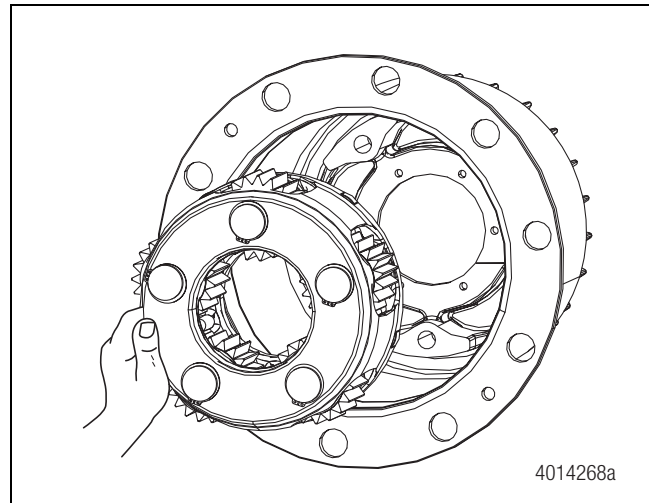
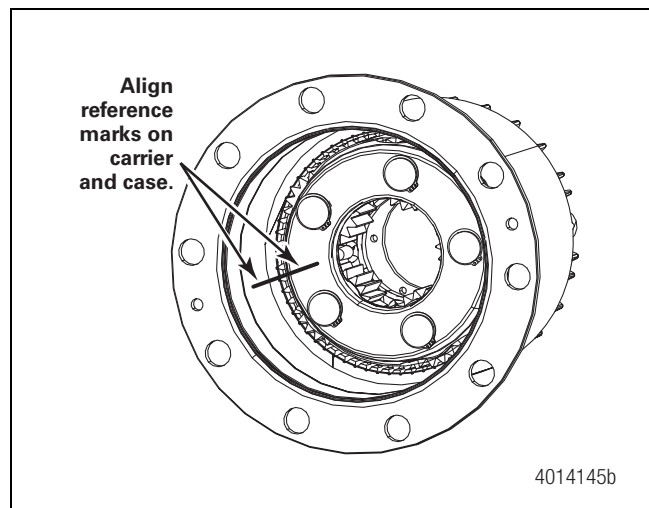

Figure 12.5
Figure 12.6
6. Install the carrier into the planetary case. Align the planetary carrier in the case using the alignment marks made during disassembly. Figure 12.5 and Figure 12.6.